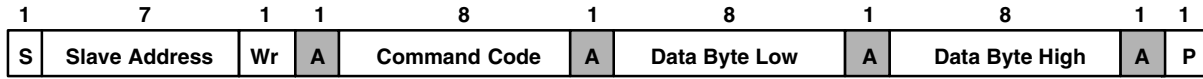
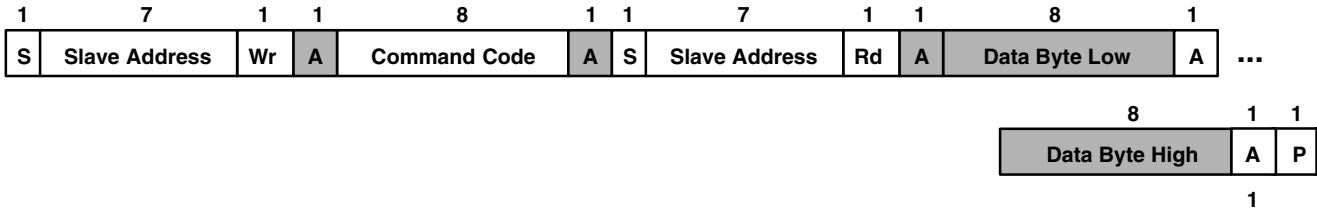

Figure 18. SMBus Write Word Protocol
Figure 19. SMBus Read Word Protocol
- NOTES: 1. An I²C block transaction will continue until the Master sends a stop condition. See Figure 18 and Figure 19. Unlike the I²C protocol, the TCS3404/14 SMBus read/write protocol requires a Byte Count. All eight ADC Channel Data Registers (10h through 17h) can be read simultaneously in a single SMBus transaction. This is the only 64-bit data block supported by the TCS3404 SMBus protocol. The TRANSACTION field must be set to 10, and a read condition should be initiated with a COMMAND CODE of CFh. By using a COMMAND CODE of CFh during an SMBus Block Read Protocol, the TCS3404 device will automatically insert the appropriate Byte Count (Byte Count = 8) as illustrated in Figure 18. A write condition should not be used in conjunction with the 0Fh register.